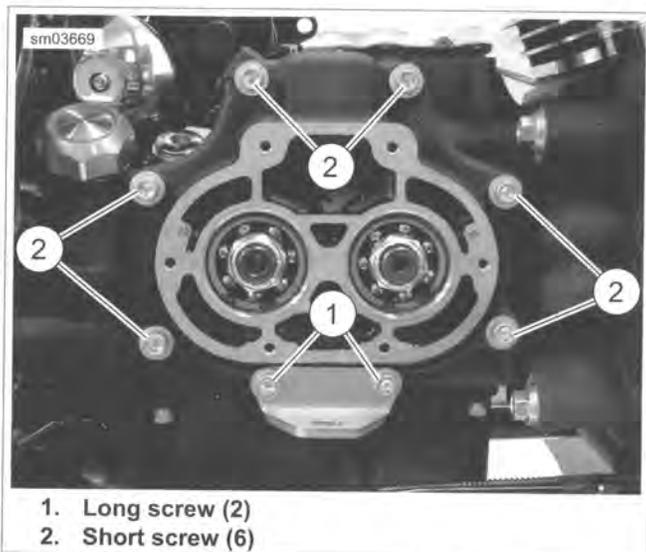

Figure 6-12. Bearing Housing Hardware
11. See Figure 6-12. Remove the transmission bearing housing mounting hardware. Remove exhaust bracket, if equipped.